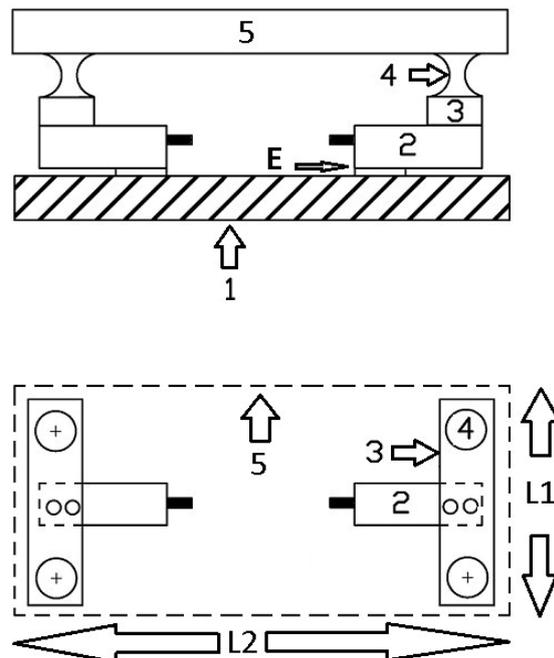

Figure 1. Mounting configuration
Key to components shown in Figure 1:
If we consider the checkweigher platform (item 5 of Figure 1) this is a platform with width L1 and length L2. The width L1 will be limited by the maximum allowable width (dimension B for the selected load cell) such that $L1 \leq B$